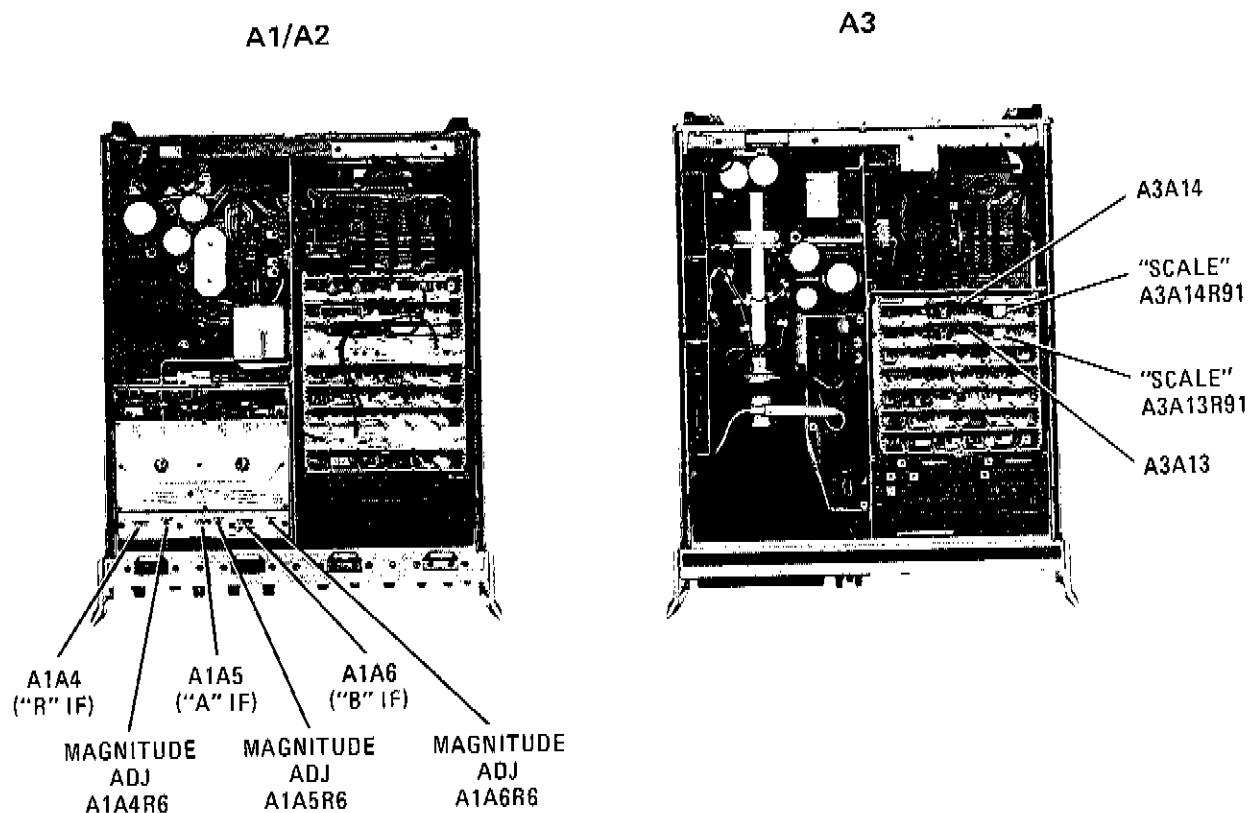

Figure A5-28. Absolute Magnitude Calibration Adjustment Locations
- d. Press Channel 1 DISPLAY REF pushbutton then CLR pushbutton until REL light goes off (if lit). Press upper 10 dB REF OFFSET pushbutton to place -10 dB of offset at the digital readout. The trace should be on the CRT. Adjust A1A4 "R" IF Amplifier "MAGNITUDE ADJ" control A1A4R6 (Figure A5-28) to place the trace directly on the center graticule line. (This calibrates for INPUT R absolute magnitude measurement.)
- e. Disconnect coaxial cable from front panel INPUT R and connect it to INPUT A connector. Set Channel 1 INPUT switch to "A". Adjust A1A5 "A" IF Amplifier "MAGNITUDE ADJ" control A1A5R6 (Figure A5-28) to place the trace directly on the center graticule line. (This calibrates for INPUT A absolute magnitude measurement.)
- f. Disconnect coaxial cable from front panel INPUT A and connect it to INPUT B connector. Set Channel 1 INPUT switch to "B". Adjust A1A6 "B" IF Amplifier "MAGNITUDE ADJ" control A1A6R6 (Figure A5-28) to place the trace directly on the center graticule line. (This calibrates for INPUT B absolute magnitude measurement.)